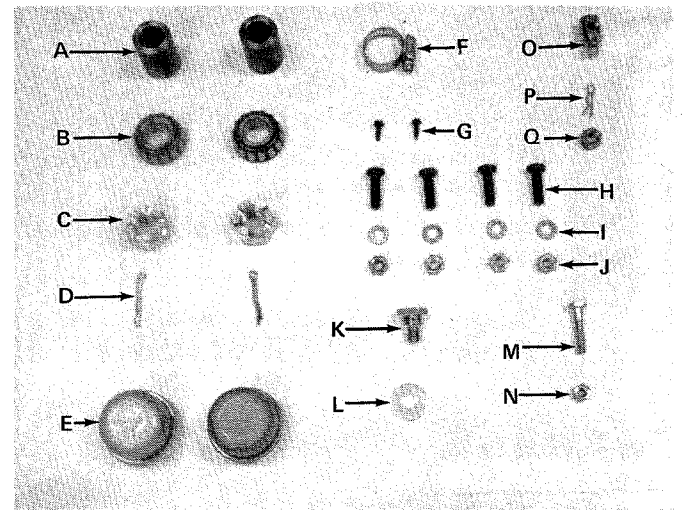

FIGURE 1
See figure 1.
1. Remove the engine (with frame), two wheels, engagement rod, engagement handle, hose and hardware pack. See figures 1 & 2.